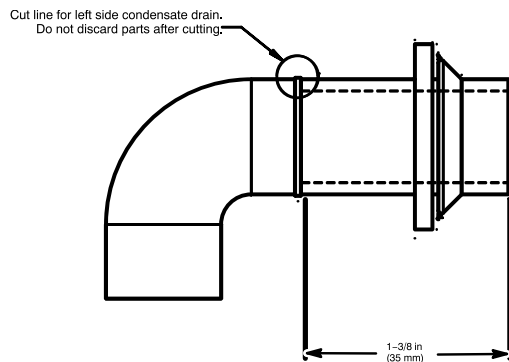

Fig. 16 – Modify Rubber Drain Elbow
3. The Z-pipe is connected to the condensate trap and the outside of the furnace by modifying the formed rubber drain elbow as shown in Fig. 16.
4. Remove the formed grommet from the rubber drain elbow by cutting the elbow along the vertical line located about 1-3/8 in. (35 mm) away from the formed grommet, see Fig. 16. **DO NOT DISCARD THE FORMED GROMMET OR THE RUBBER ELBOW.** Both of these pieces will be used.
TIP FROM CONTRACTORS: When installing the furnace horizontally, use the entire drain elbow (that is, do **NOT** cut as shown in Fig. 16 to connect the trap to the drain line. This helps to prevent bumps and shocks to the drain line from damaging the furnace drain trap. Avoid misalignment of the drain pipe which may cause kinks in the elbow.